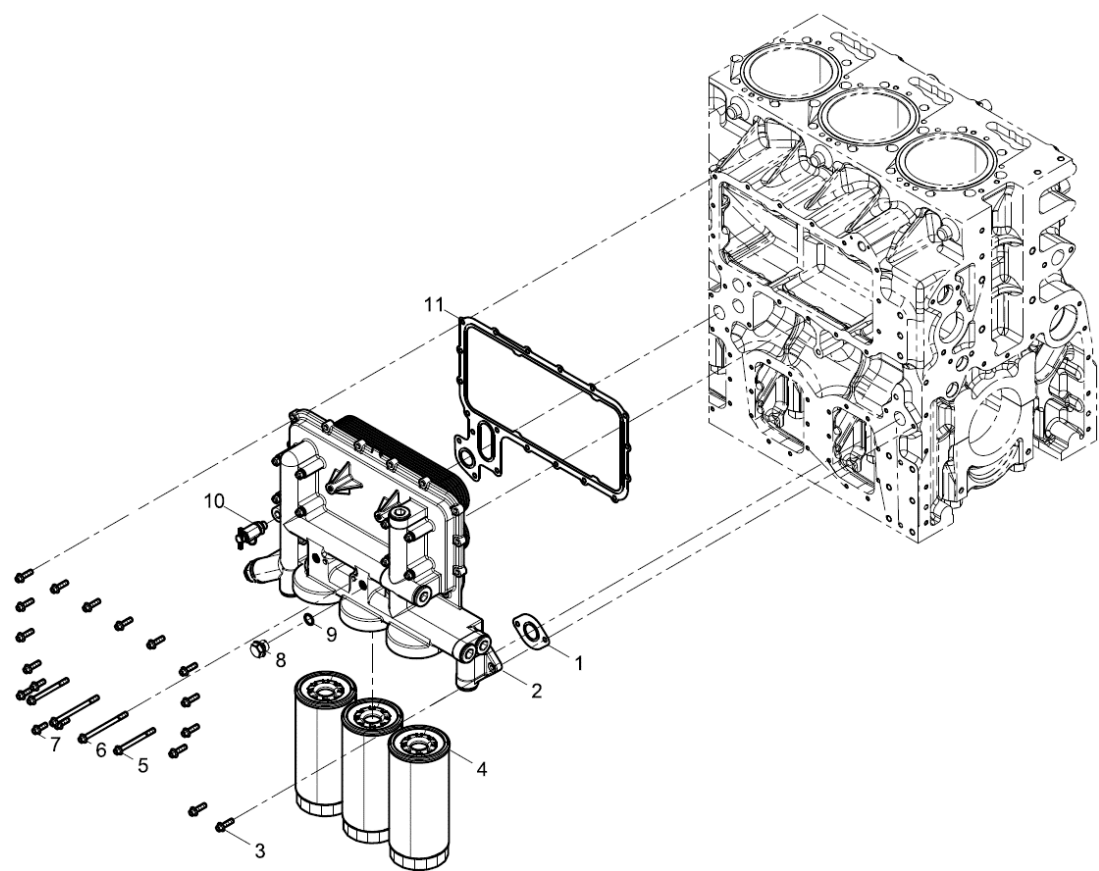

Figure 135. Oil Cooler Assembly
2. Remove the oil filter assembly (Figure 135, Item 4) if necessary.
3. Remove the bolts (Figure 135, Items 5, 6 & 7) and remove the oil cooler assembly (Figure 135, Item 2).
4. Remove the oil cooler gaskets (Figure 135, Item 1 & 11).
2. Place new gaskets (Figure 135, Items 1 & 11) and install the oil cooler assembly (Figure 135, Item 2) onto the cylinder block.
3. Apply Loctite 242 to all bolts (Figure 135, Items 5, 6 & 7).
4. Insert and torque the bolts (Figure 135, Items 5, 6 & 7) to 26 lb-ft.